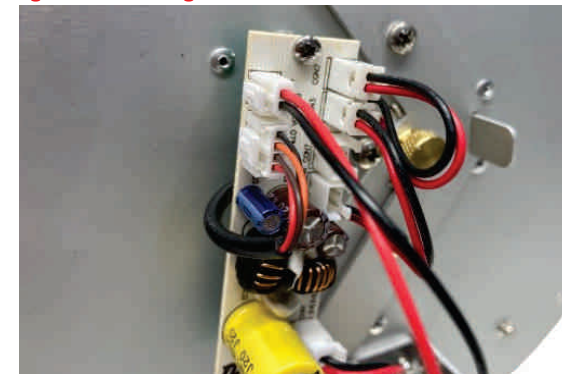
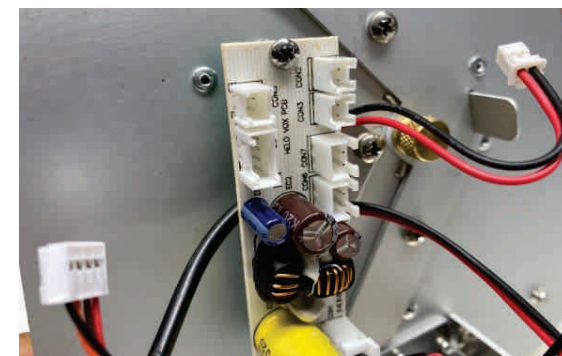

Figure 12
Figure 13
- Unplug four (4) power cords on the electric board. Refer to Figure 12 and Figure 13